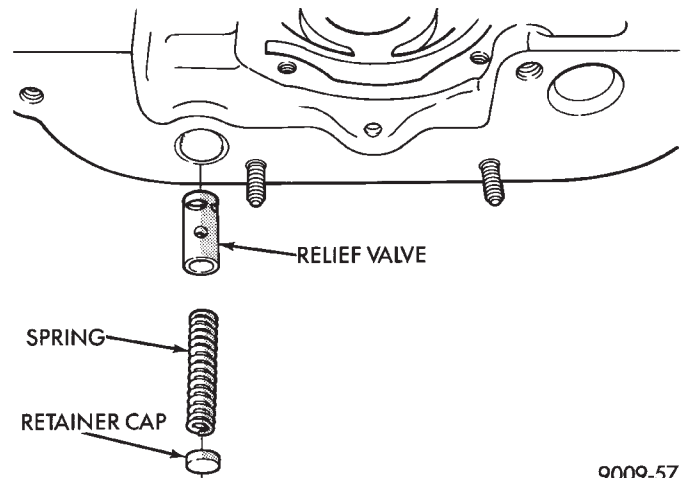
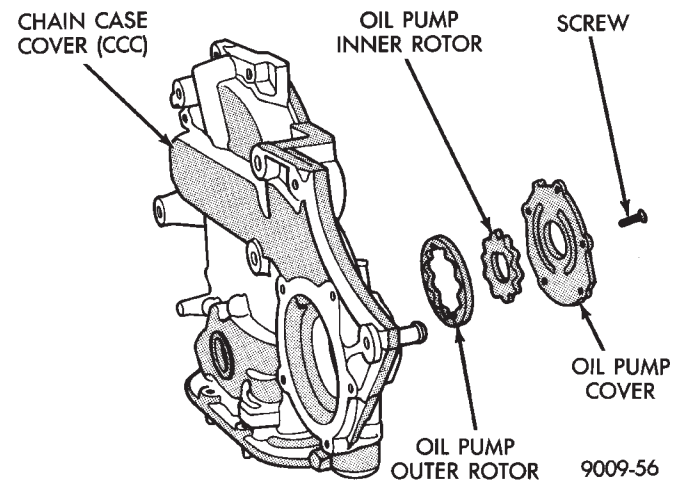
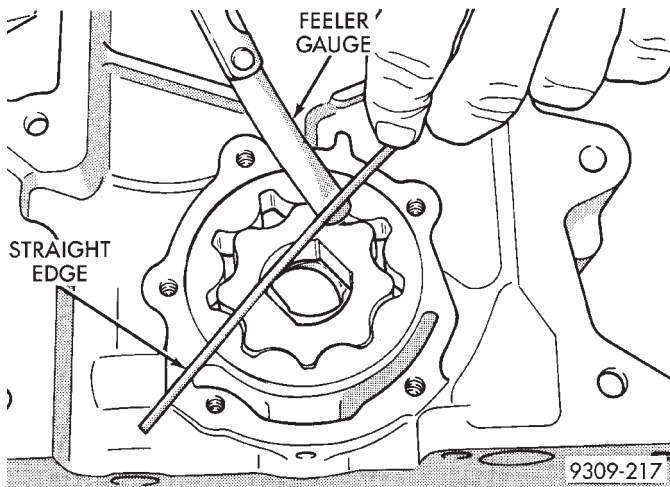

Fig. 5 Oil Pressure Relief Valve
Fig. 6 Oil Pump
Fig. 12 Measuring Clearance Over Rotors
- (1) To remove the relief valve, proceed as follows:
- (b) Clamp screw into a vise and while supporting chain case cover (CCC), remove cap by tapping CCC using a soft hammer. Discard retainer cap and remove spring and relief valve (Fig. 5).
- (2) Remove oil pump cover screws, and lift off cover.
- (3) Remove pump rotors.
- (4) Wash all parts in a suitable solvent and inspect carefully for damage or wear (Fig. 6).
(7) Place a straightedge across the face of the CCC, between bolt holes. If a feeler gauge of .102mm (.004 inch) or more can be inserted between rotors and the straightedge, replace pump assembly (Fig. 12). **ONLY** if rotors are in specs.
(8) Inspect oil pressure relief valve plunger for scoring and free operation in its bore. Small marks may be removed with 400-grit wet or dry sandpaper.
(9) The relief valve spring has a free length of approximately 49.5mm (1.95 inch) and should test between 19.5 and 20.5 pounds when compressed to 34mm (1-11/32 inches). Replace spring that fails to meet specifications (Fig. 5).
(10) If oil pressure is low and pump is within specifications, inspect for worn engine bearings or other reasons for oil pressure loss.